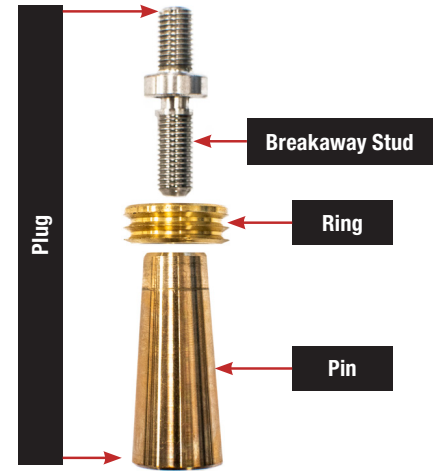

Figure 5
- l) Insert the *Plug* into the tube of the heat exchanger being plugged, making sure that the *Ring* (*Figure 5*) is located within the front and rear face of the tubesheet. If the tubesheet thickness allows, the *Plug* should be installed at a depth of approximately 1” from the top of the *Ring* to the edge of the tubesheet so the installed plugs *Pin* (see *Figure 5*) does not protrude beyond the face of the tubesheet.
- m) Actuate the *Pump* while holding the *Ram* steady and perpendicular to the tubesheet. **DO NOT STAND DIRECTLY BEHIND, HAVE ANY BODY PARTS BEHIND, OR HAVE ANYONE ELSE STANDING BEHIND THE PULL ROD ASSEMBLY.** The *Piston* in the *Ram* will extract against the *Expansion Nut* to install the *Plug*. When fully installed the *Breakaway Stud* (see *Figure 5*) of the *Plug* will break at a pre-engineered tensile load that corresponds to the size of the *Plug*. Begin the procedure again to plug another tube.
- n) If the *Stud* has not broken and the gauge on the *Pump* has exceeded 7000 psi, then release the *Pump* pressure and allow the *Ram’s Piston* to fully retract and re-tighten the *Expansion Nut* to take another stroke. When this happens it usually means that the *Pin* has more length to travel and the *Piston* was fully extended bottoming out the hydraulic cylinder. If the *Stud* has not broken after the second full stroke, stop the installation and call USA Industries at (800) 456-8721.